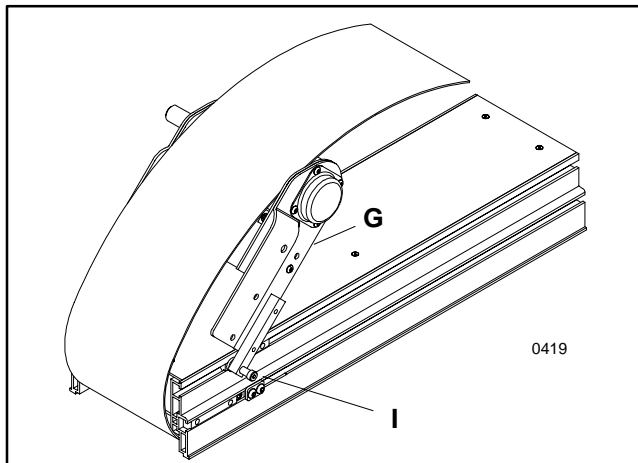

Figure 5: Tail Section Positioning Detail
4. Place the tail section (G of Figure 5) on top of the conveyor and inside the belt loop as shown.